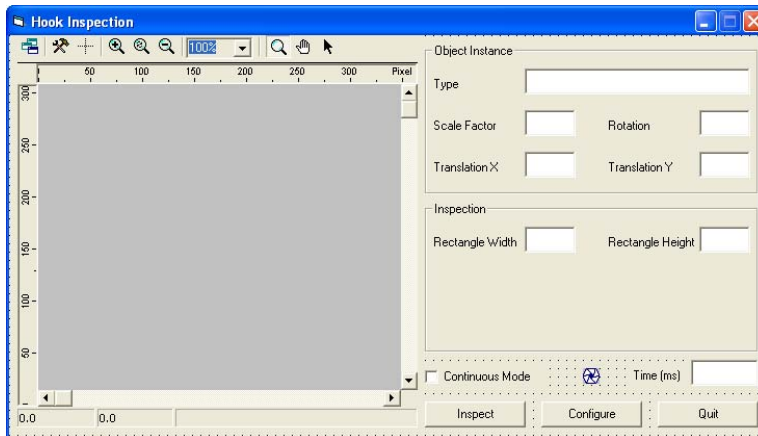

Figure 65 Visual C++ Dialog for Tutorial 3
1. On your application dialog, add two edit boxes. Name the first one **IDC_EDIT_WIDTH** and the second **IDC_EDIT_HEIGHT**. Also add a group box and proper labels for your text boxes. Set everything to appear as illustrated in Figure 65.